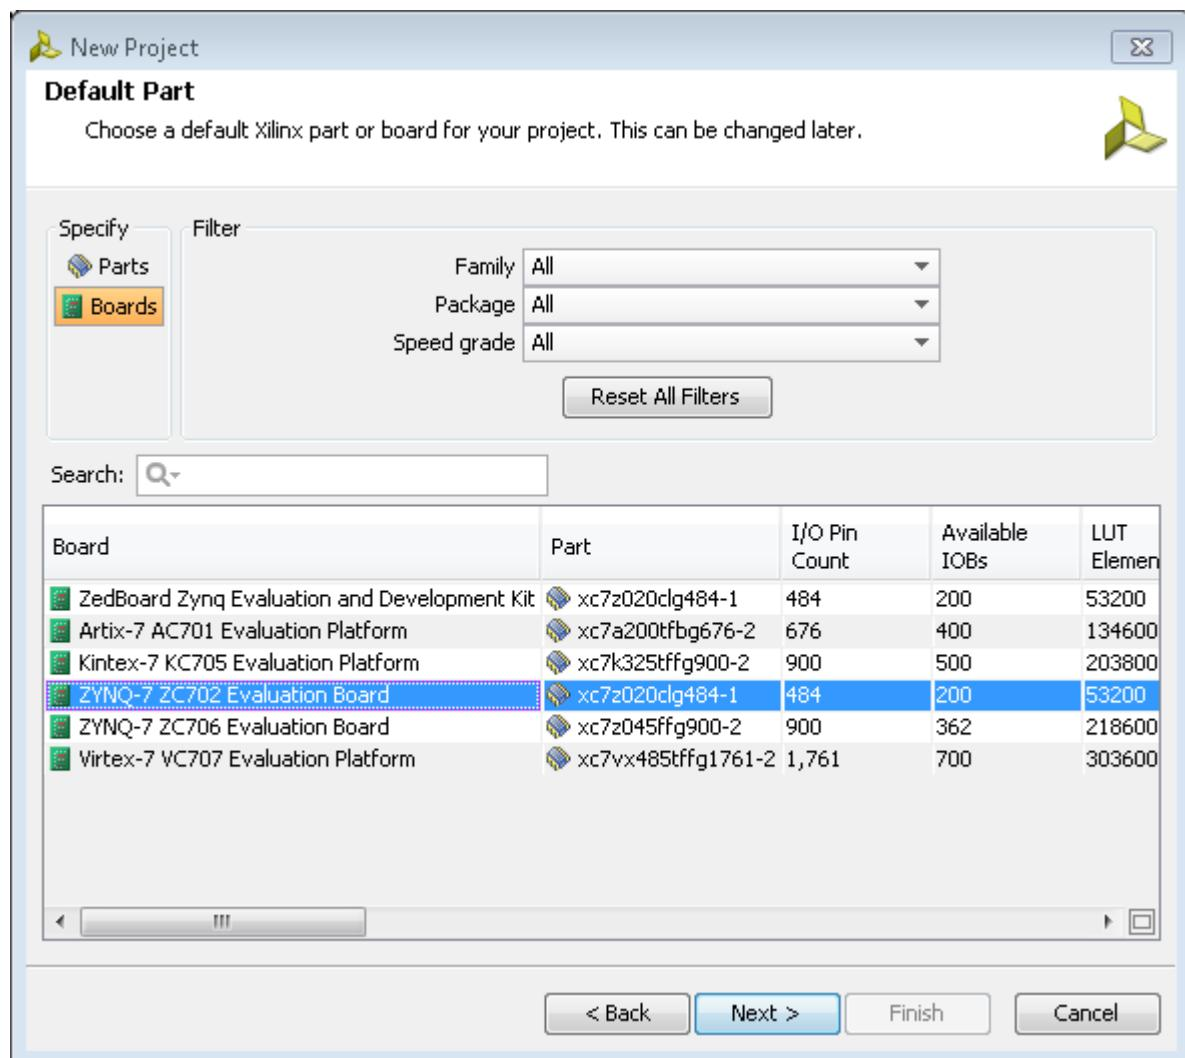

Figure 188 Vivado Project Specification
6. On the Default Part page click on Boards under Specify and select the ZYNQ-7 ZC702 Evaluation Board as shown in Figure 188.